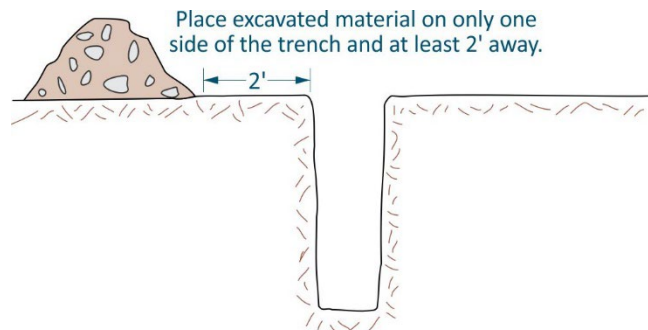

Figure 46 Trench Spoils
Keep trench spoils at least two (2) feet from the edge of the trench and any property pins or permanent markers and out of the roadway or other access areas where possible, see Figure 46. Remove spoils or debris from the site each day and dispose of it in accordance with all applicable regulations.